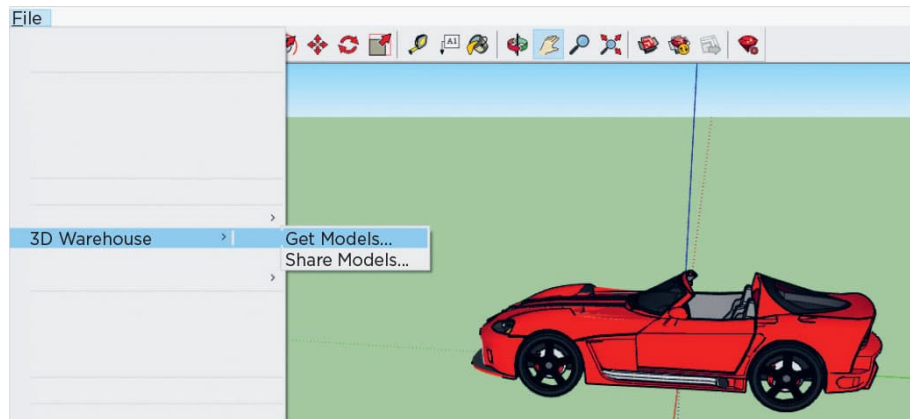

FIG. 1: Find a pre-created design in the 3D warehouse.
1. Use the **3D Warehouse** tool in SketchUp to find a good model for a car. Import that model onto the SketchUp workplane (fig. 1).